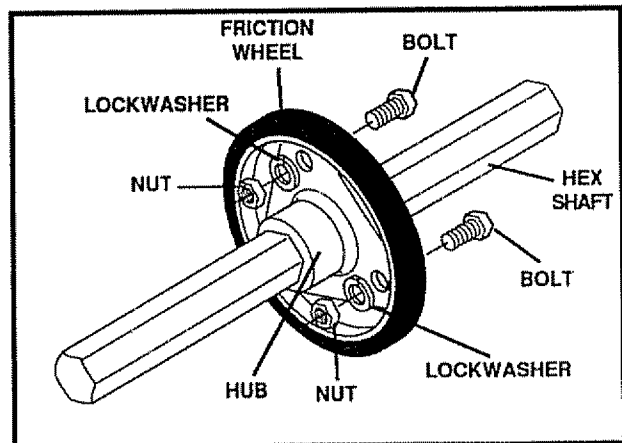

FIG. 32
- Remove the three (3) fasteners securing the friction wheel to hub (See Fig. 32) and set fasteners aside.